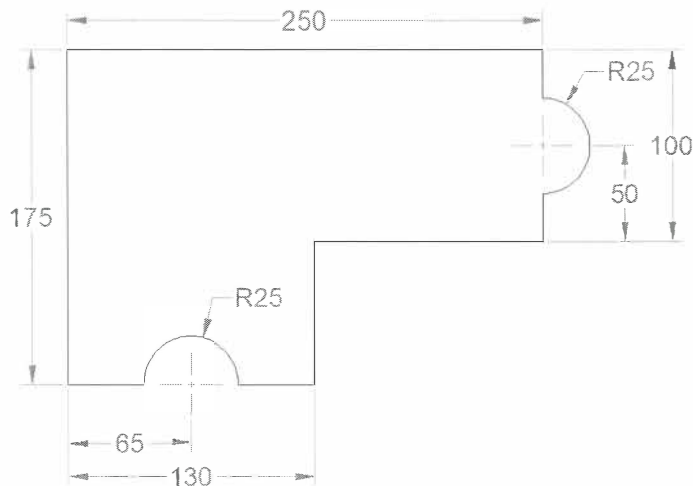

Figure 1–20
In this practice, you will draw lines, circles, and trim objects (as shown in Figure 1–20) using keyboard commands. You will select commands in the AutoComplete list using partial keyboard commands. You will also be able to toggle Command Line on and off using keyboard commands.
2. Draw the objects shown above in Figure 1–20. Use the command aliases **L (Line)**, **C (Circle)**, and **TR (Trim)** to start the required commands. Type the distances using Polar Tracking and Dynamic Input.